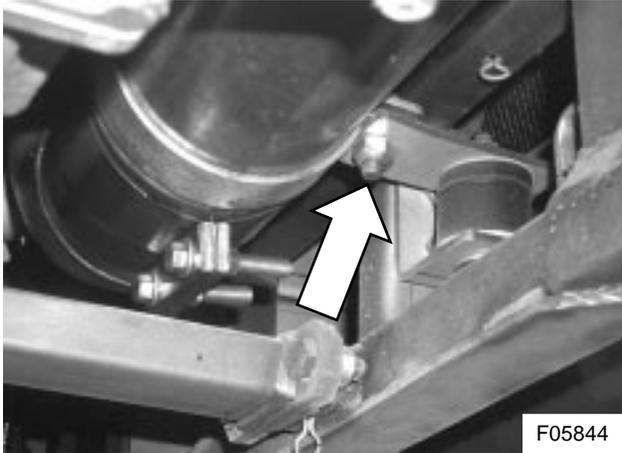

Figure 3: Muffler elbow mounting bracket
- 1) Loosen and remove the bolt and nut securing the muffler elbow to the chassis (see Figure 3).